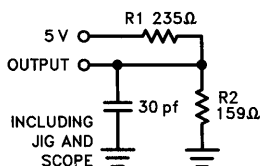

Figure 1a
- Test conditions assume signal transition times of 5 ns or less, timing reference levels of 1.5V, output loading of the specified  $I_{OL}/I_{OH}$  and loads shown in Figure 1a, 1b.